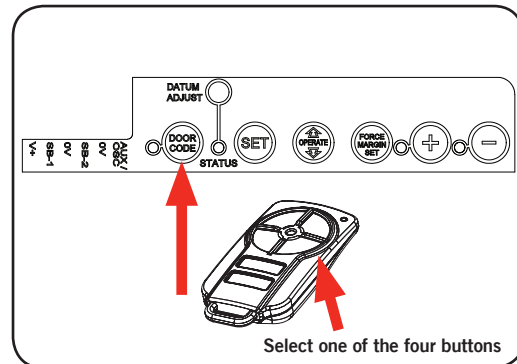

Fig.27
Step 13.3 - Setting the Transmitter to Operate Vacation Mode (Fig.27)